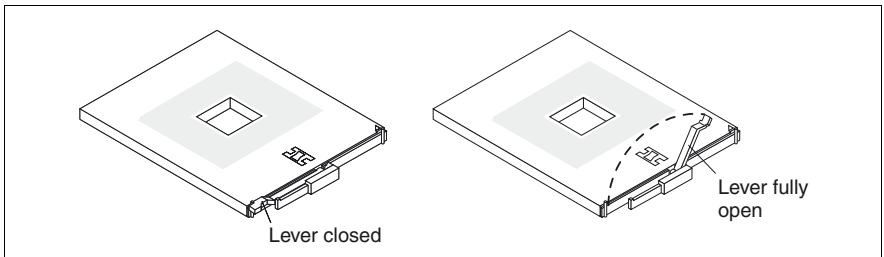

Figure 17: Lifting the microprocessor release lever
- ▶ Lift the microprocessor release lever to the fully-open position (approximately 135° angle, see figure 17).